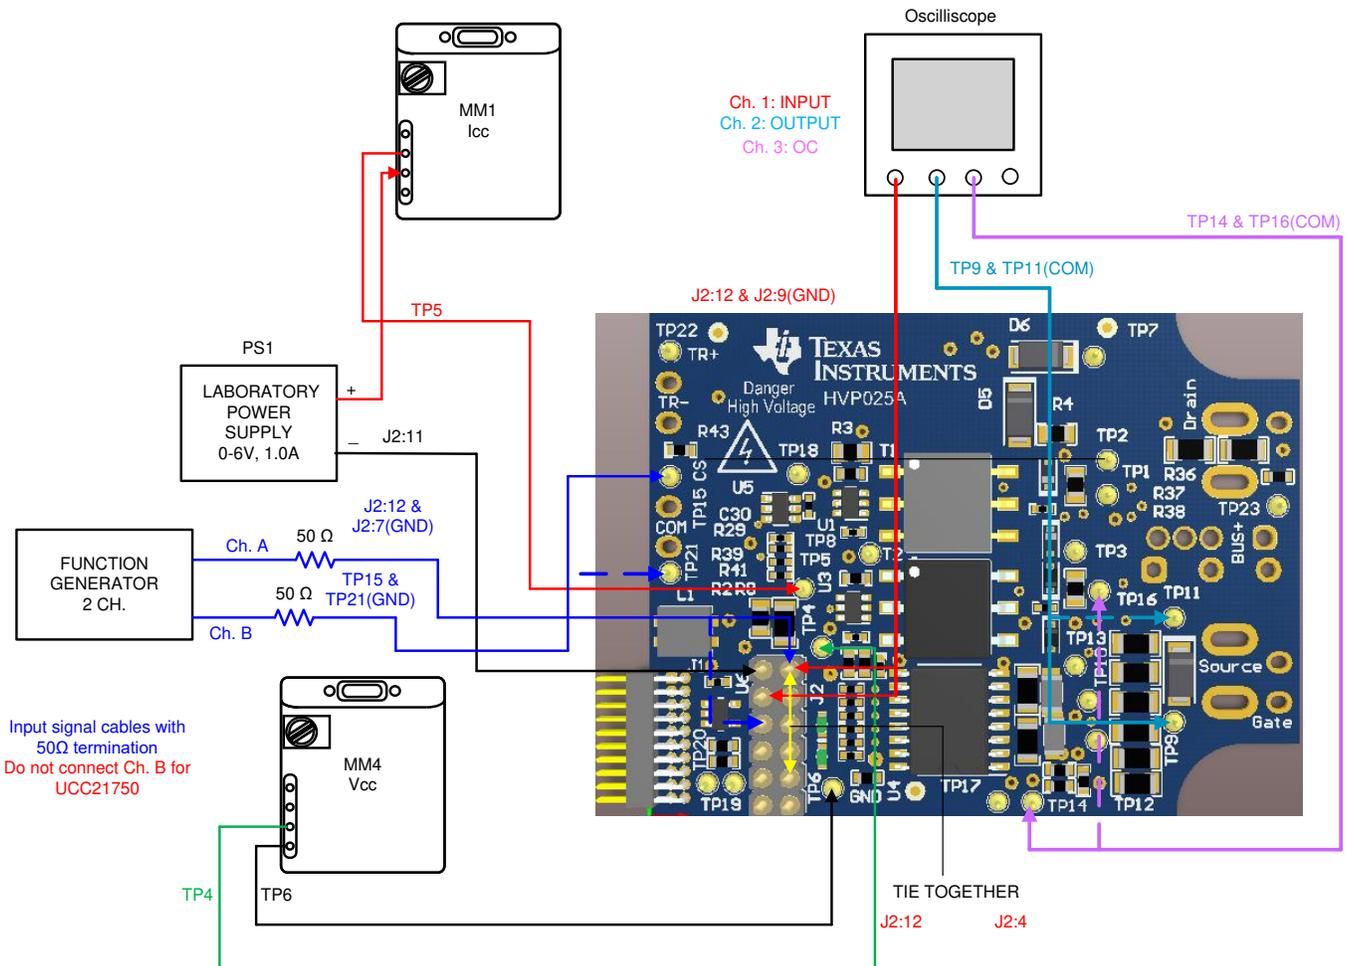

Figure 10. Overcurrent and Short Circuit Test Setup
The test setup is shown in Figure 10. For UCC21750 there is no need to connect channel B (Ch.2) of function generator. The hardware settings for using either OC detection or DESAT detection for the versions of UCC217xx are shown in Section 3.1.
Oscilloscope settings for UCC21710 and UCC21732 based EVMs are shown in Table 7 and in Figures 10 through 12.
5. Compare waveforms with typical screen shot shown in Fig. 10